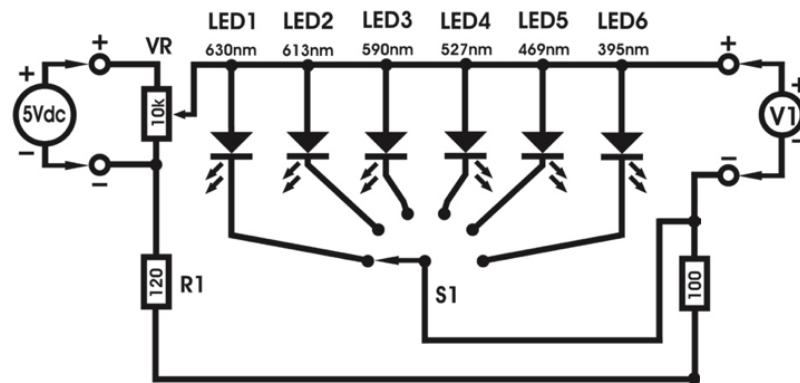

Figure 6.9 The circuit diagram used in the experiment.
#### 4. Procedure (see Figure 6.9)
- 1) Connect the LED box kit, the 5V DC supply and a digital voltmeter according to Figure 6.9.
- 10) Calculate the slope of the line of best fit through the data and the Planck's constant from Equation (2)